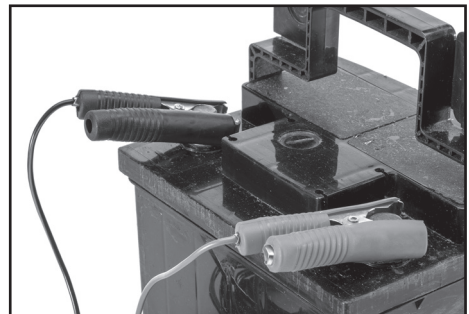

FIG.3
8.3 CONNECT TO POWER - FIG. 3
- Green power indicator lamp (6) illuminates when power connected.